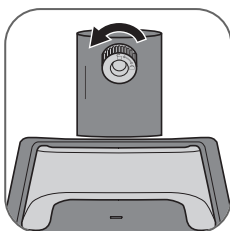

fig. 1
1. Unscrew the handle's fastening screw on the base of the handle. (fig. 1)